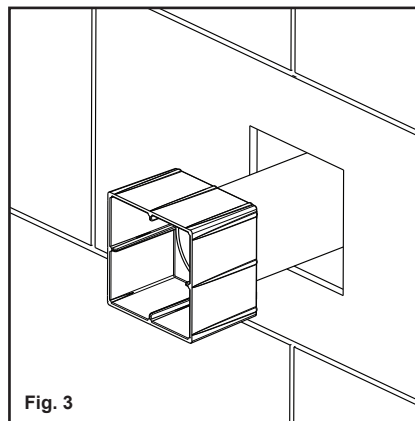

Fig. 3
3. Once tiling is complete and the tiles are set, remove the tiling box and discard, as shown in **Fig. 3**.